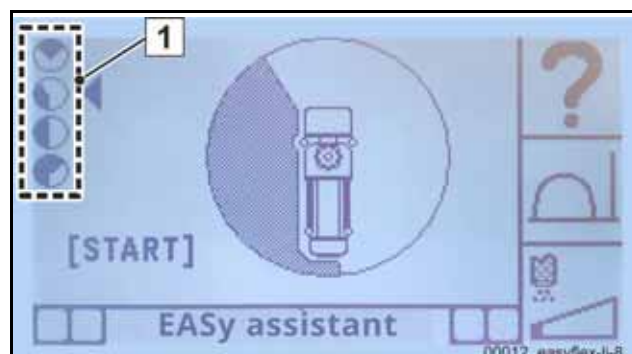
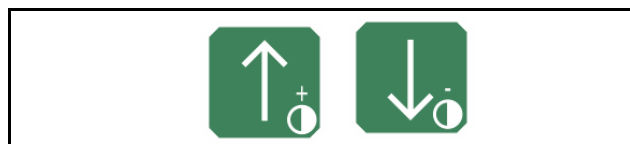

Fig. 518 Example selection: EASy “left”
Fig. 519
The EASy assistant detects the selected position and indicates the next step **(Fig. 518)**:
- Using the arrow keys (9 and 10 **(Fig. 519)**), select one of the symbols (1; **(Fig. 518)**) for the required EASy variant.
For example, the EASy variant "EASy left" is selected in **(Fig. 518)**.